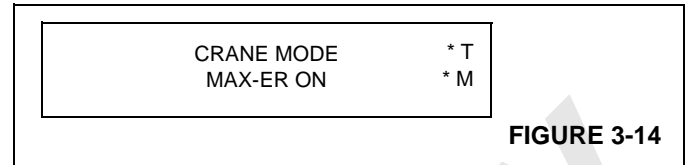

FIGURE 3-14
- Then turn key counterclockwise and release to TURN OFF and confirm MAX-ER Off mode. Screen shown in Figure 3-14 appears.